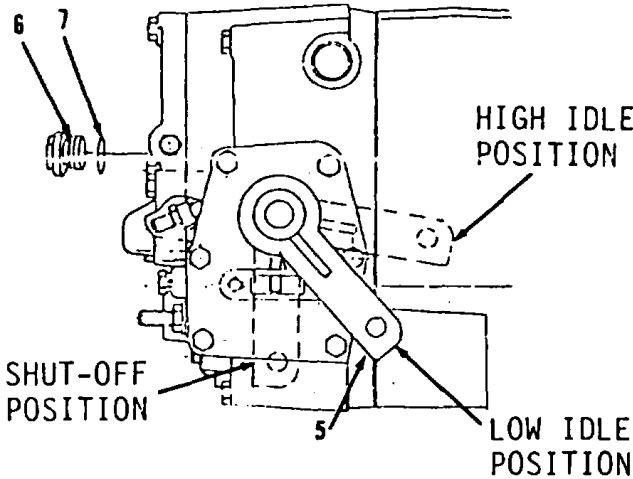
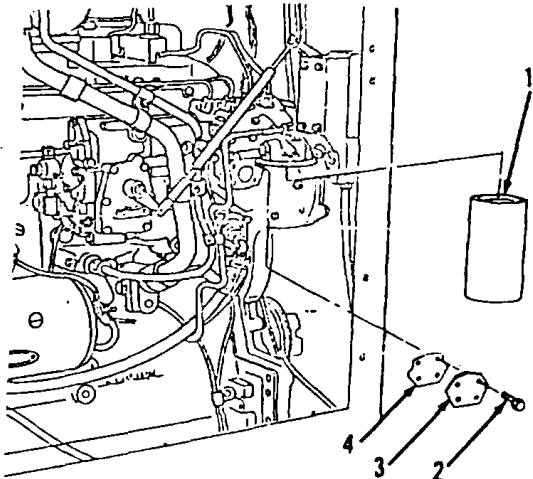

Figure 3-104.
Figure 3-99.
- 25. Remove bolt from plug (6, Figure 3-104) hole and install into end of compressor.
- 26. Install new preformed packing (7) and plug (6).
- 27. Install new gasket (4), cover (3) and four bolts (2, Figure 3-99) to right side of fuel injection pump.